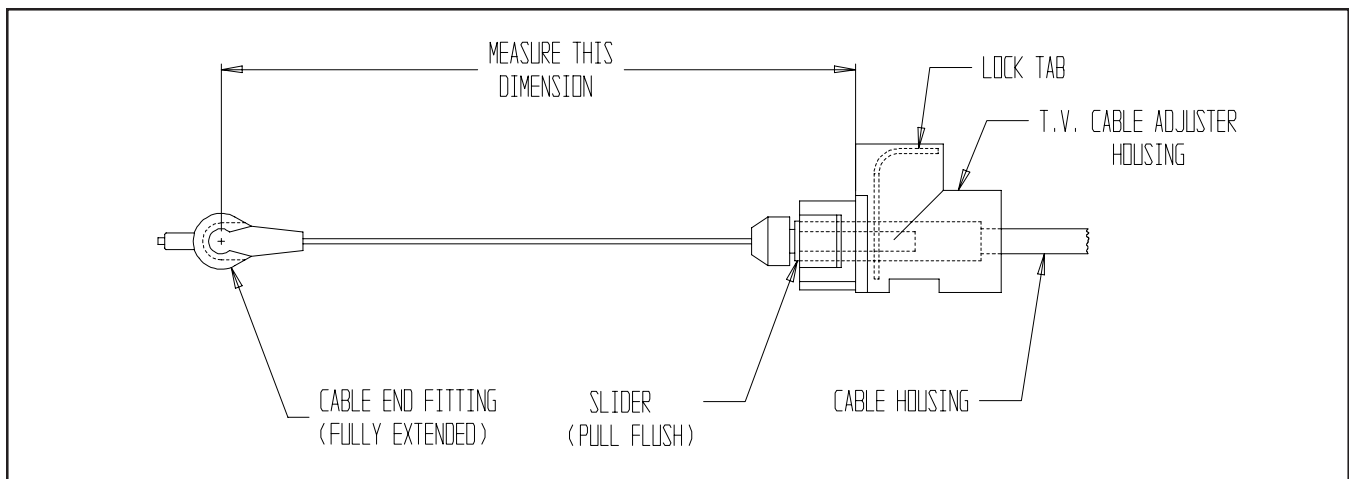

FIG. 4
STEP 1. Measure your T.V. cable to establish it's particular mounting dimension (there are several lengths in use) as follows (see Fig.4). Retract the slider by depressing the lock tab then pull the cable housing until the flats on the slider are flush with the end of the adjuster housing then fully extend the cable by pulling the cable end fitting out (slider must remain retracted) until it stops. Holding the end fitting out, measure the dimension from the face on the adjuster housing that registers with the mounting bracket to the center of the cable end connector.